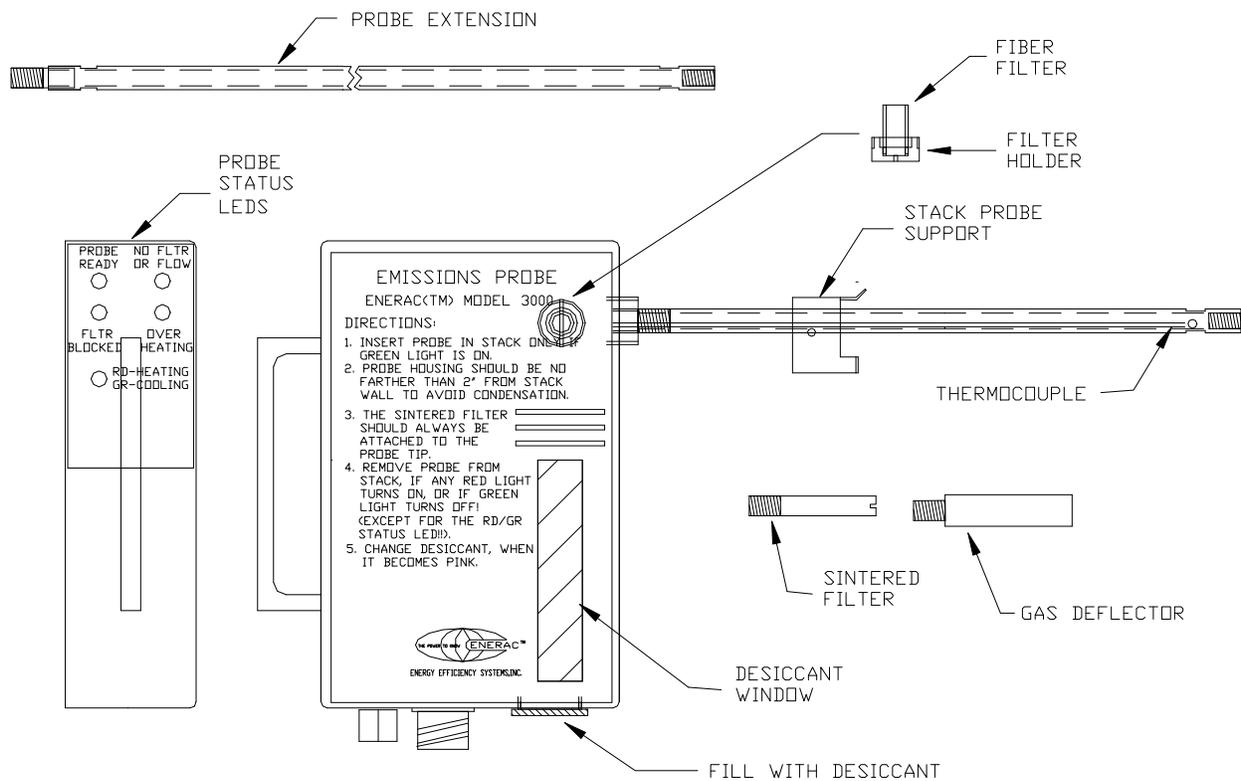

FIGURE 5
- a. **The secondary fiber filter.** This is a small cylindrical 0.5 micron glass fiber filter for the removal of the finer particles from the gas stream. It is accessed from the side of the probe (see Figure 5). This filter should be replaced periodically.